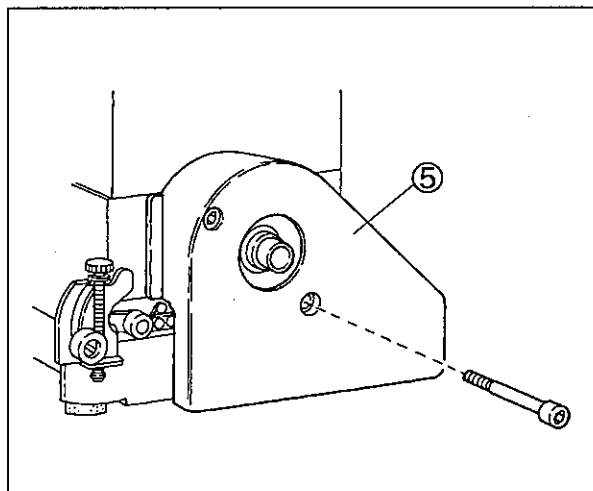
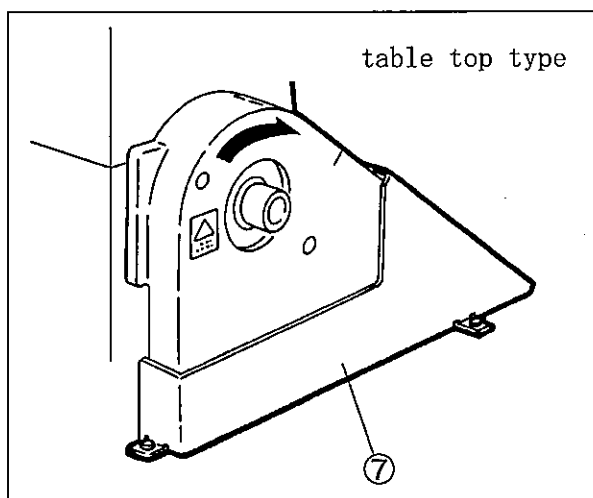

Fig. 12
Fig. 14
- (1) Install the belt cover ⑤. (Fig. 12)
- (2) Push the belt cover support ⑥ to the belt cover ⑤ to install it.
- (3) Fix the belt cover(lower) ⑦ on the machine table only for table top type. (Fig. 14)